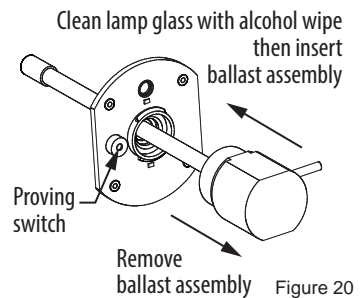

Figure 20
2. Remove the ballast assembly and lamp from the mounting base (Figure 20).